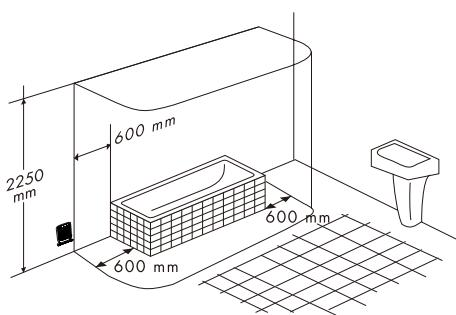

Fig. 2
- Fix the bracket to the wall respecting the minimum measurements indicated in fig. 2